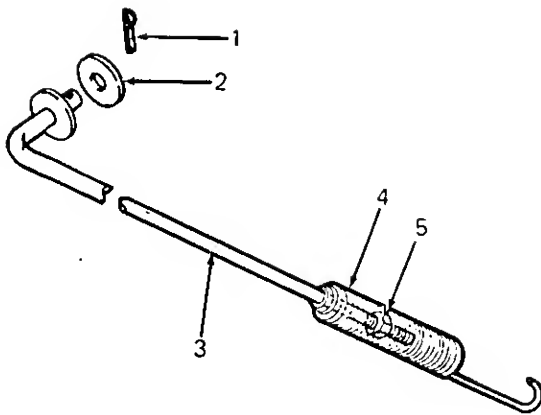

Figure 19
3. Refer to Figure 19 and tighten the hex nut on the end of the brake rod, under the spring as follows: remove the hairpin cotter and flat washer from the other end of the brake rod to disconnect it, and tighten the hex nut.
To decrease brake force, refer to Figure 19 and proceed as follows: